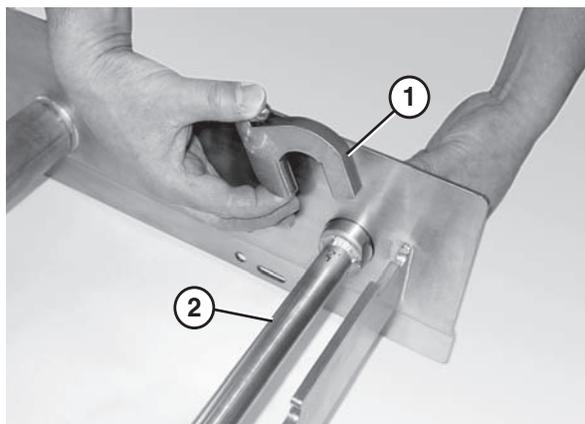

Figure 28
2. Attach the key stops (**Figure 28, item 1**) to the tip up shaft (**Figure 28, item 2**). The rounded end of the key stop should face the tail.